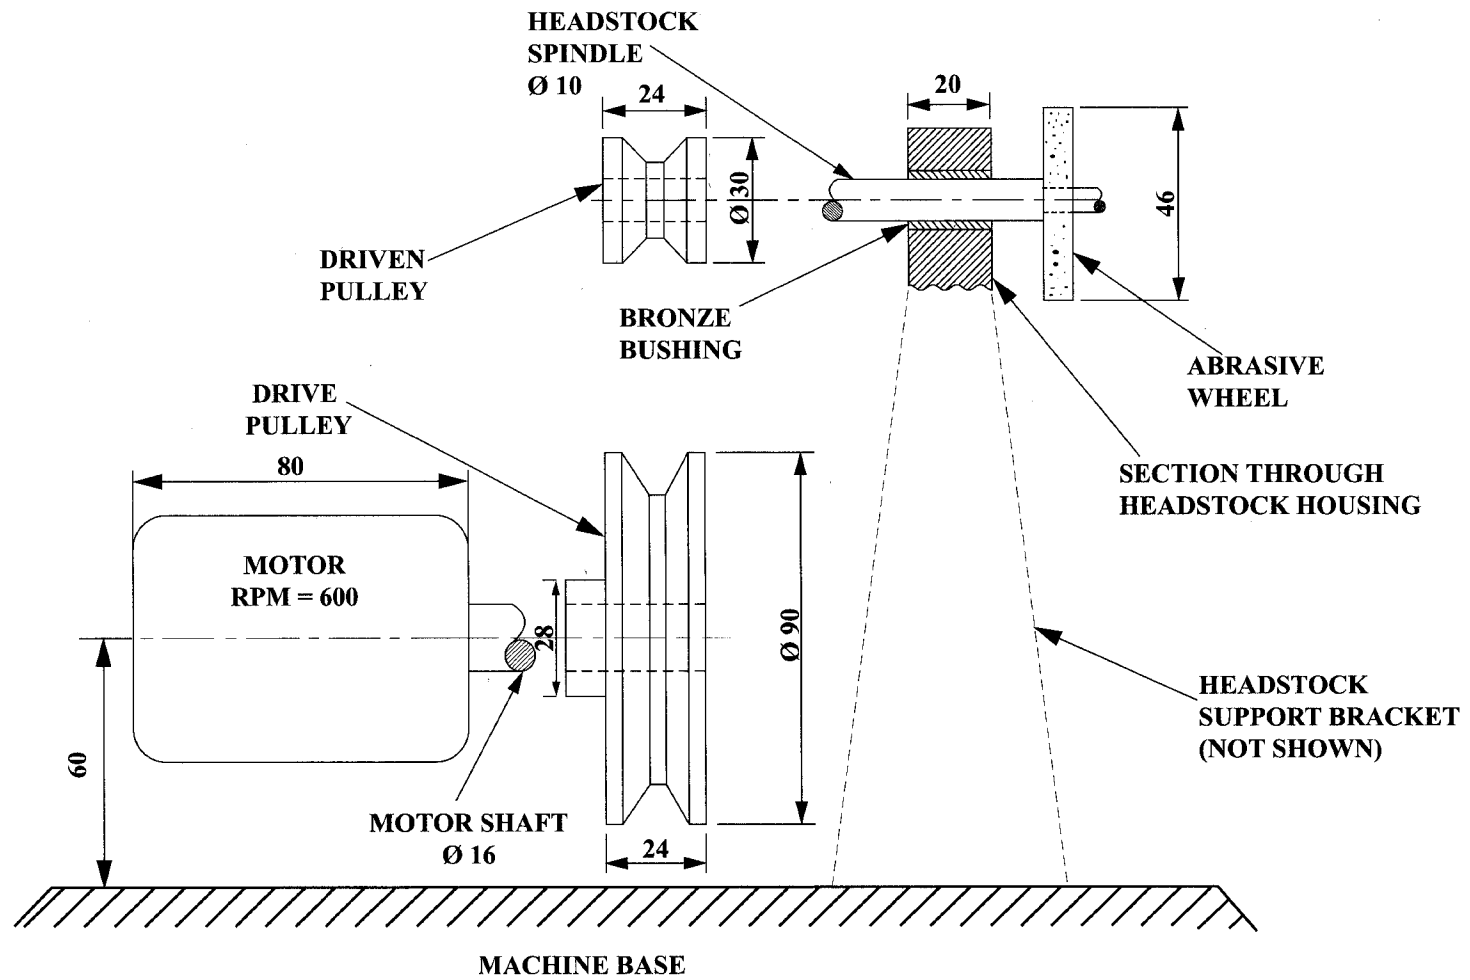

Figure 1. Table-top grinder
1. **Figure 1**, on page 3, shows the general arrangement of a table-top grinder. The grinder is driven by a small motor running at a speed of 600 r.p.m. The drive to the system is transmitted from the motor to the headstock spindle by a V-belt pulley system. Tension on the drive belt is achieved by adjusting the headstock housing vertically (up and down) on the headstock support bracket.